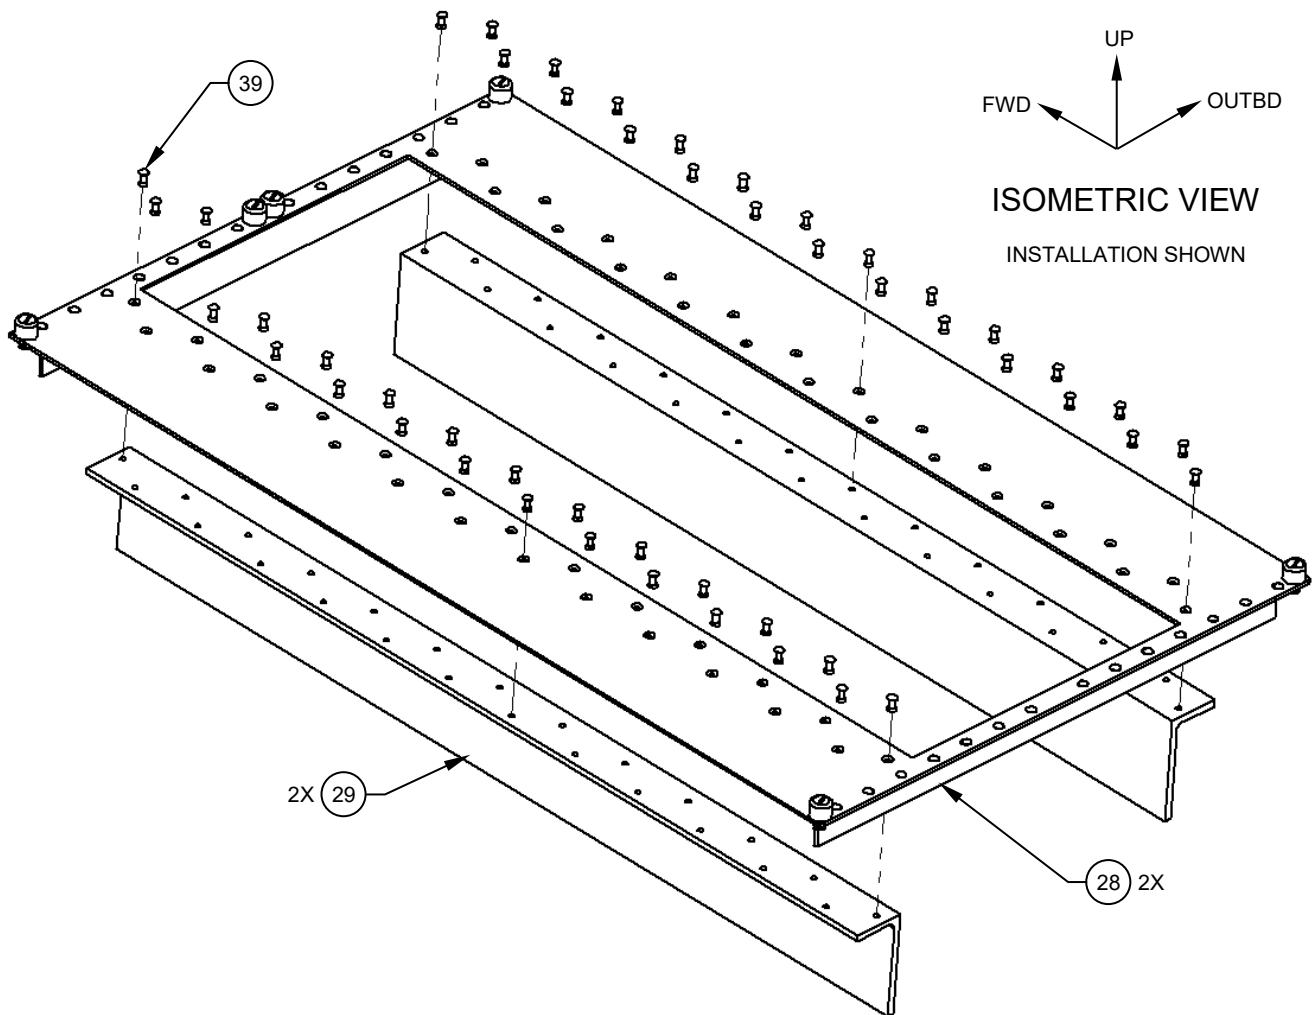

Figure 36
6.4.8. Measure the width and the combined height of all of the panel mount instruments to be installed and use that data to cut the opening in the face of the Panel Mount Plate, Assy, (Item 25). Regardless of the opening size in the face of the Panel Mount Plate, Assy, (Item 25), the length of the L Extrusion, Aluminum, (Item 29) should be so that there is **no more than a .030" gap** between the ends and the Angle, Detail, (Item 28). Plot an appropriate staggered rivet pattern on both pieces of the L Extrusion, Aluminum, (Item 29), drill thru #40 for rivets, (Item 39). See Figure 36.
6.4.9. Position the L Extrusion, Aluminum, (Item 29), so that they are centered front to back and flush to the edges of the cutout in the face of Panel Mount Plate, Assy, (Item 25). Transfer the rivet pattern, countersink and rivet using the appropriate number of Rivet, Solid, Countersunk Head, (Item 39). See Figure 36.